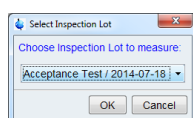

Figure 3-11: Select Inspection Lot from list
- Choose Inspection Lot to measure** from the list in the dialog window shown in Figure 3-11. Click **OK** to apply the selection. Click **Cancel** to abort selecting an Inspection Lot for acquisition.